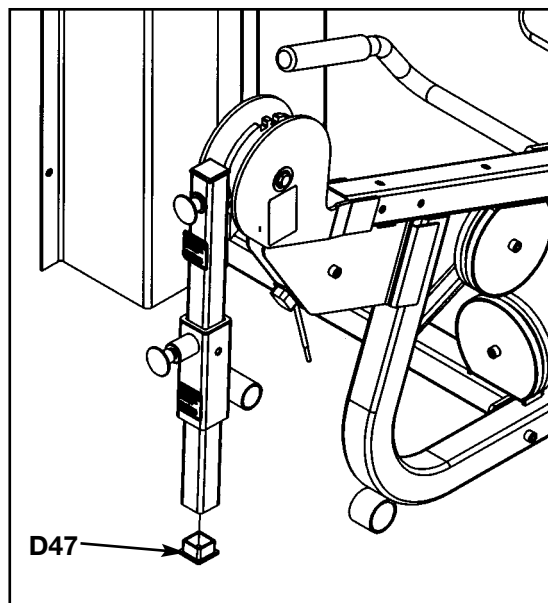

Figure 12C
- D.** Locate and install the plastic insert (#D47) as shown in Figure 12C.